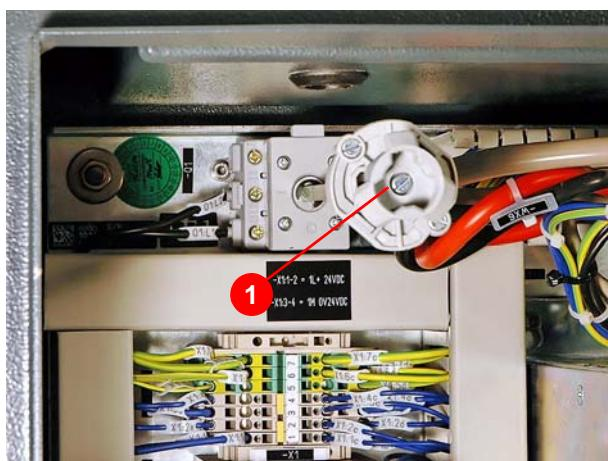

Figure 7.129 Main switch in the supply cabinet
- b) Turn on the main switch using the main switch shaft (1) (Figure 7.129).